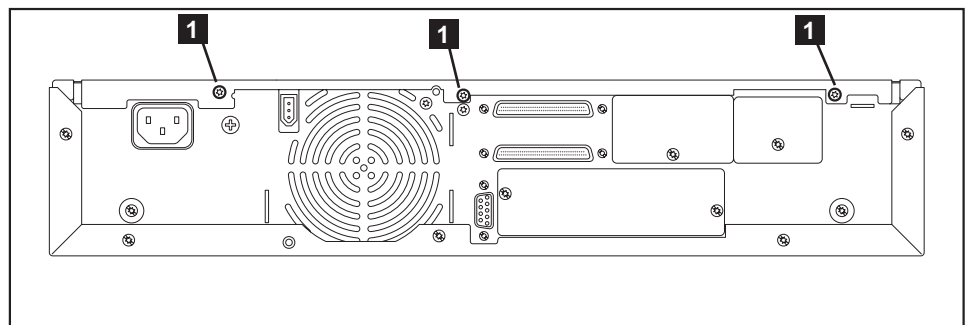

Figure 158. Location of screws on rear panel for drive removal
- b. Remove the three screws from the rear panel ( **1** in Figure 158).
- d. Remove the 2 screws attaching the bottom cover to the sides of the Autoloader (**2** in Figure 158 on page 269).